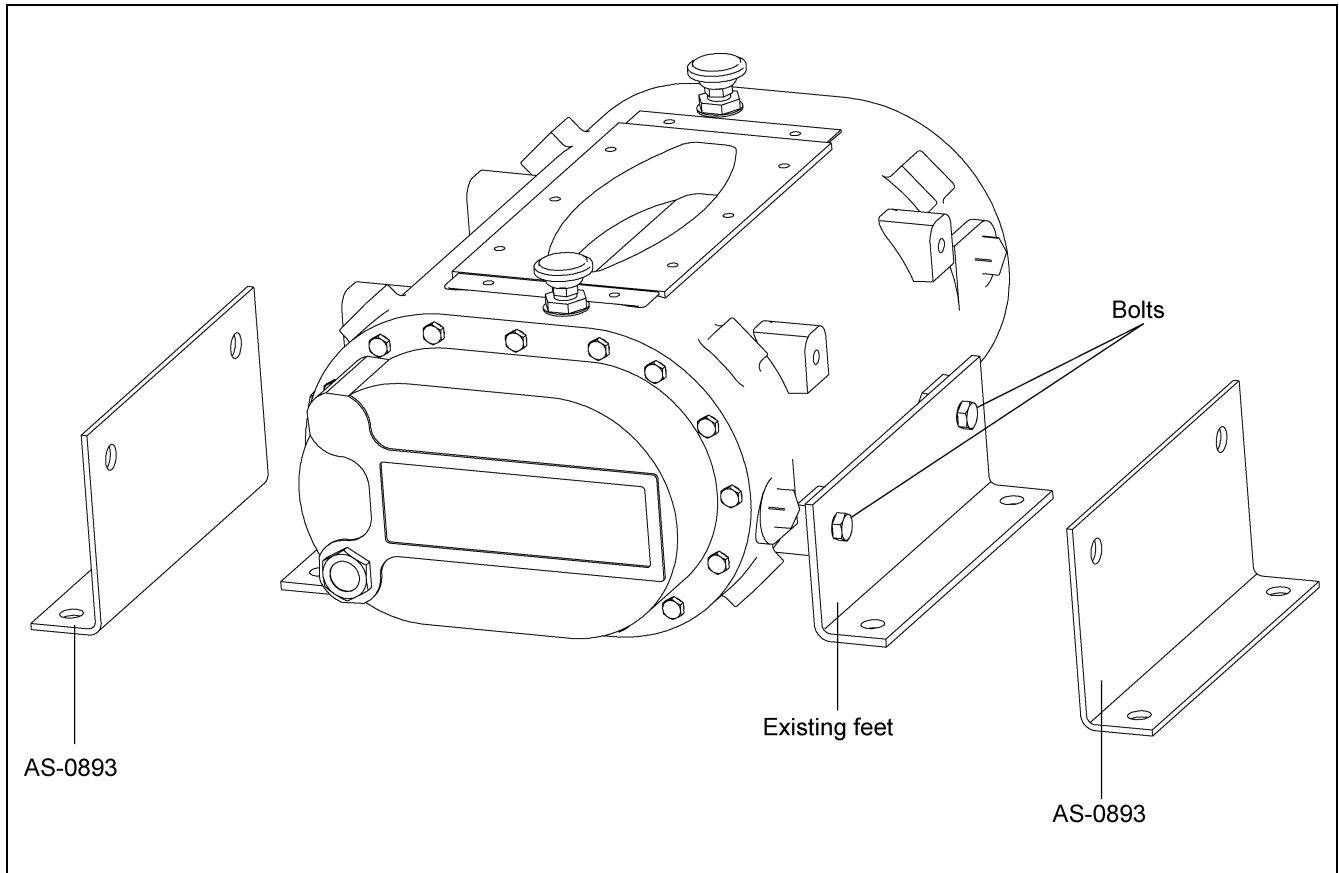

Figure 7
4. Replace feet on blower assembly. (*See Figure 7.*)